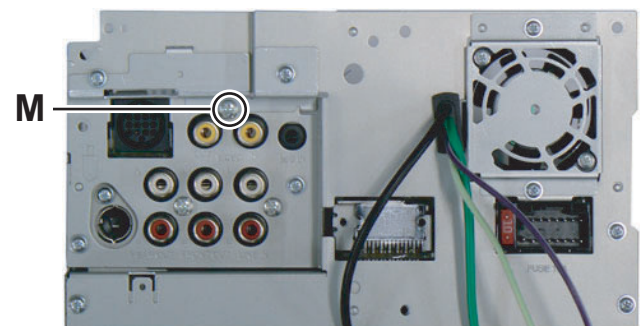

Fig.11
3.1.6 Removing the Sub amp board (See Fig.11, 12)
- (1) Remove the one screw **M** attaching the Sub amp board. (See Fig.11)